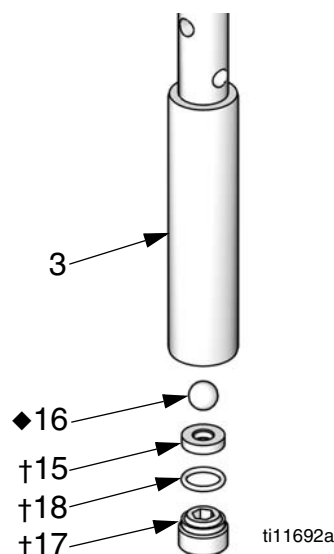

FIG. 5. Replace piston ball and seat.
13. Remove the o-ring (18†), seat (15†) and ball (16♦). See FIG. 5.